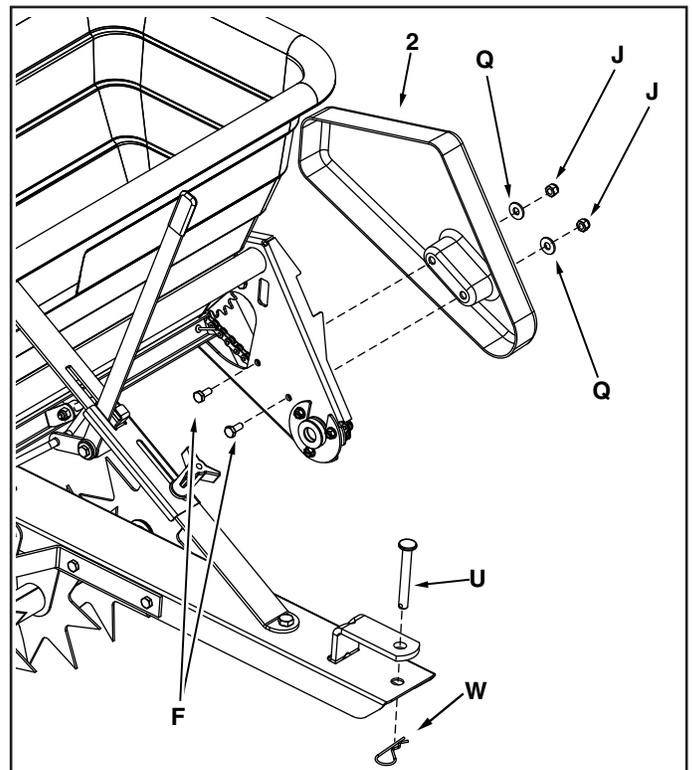

FIGURE 28
45. Assemble the chain cover (2) to the frame assembly using two 1/4" x 5/8" hex bolts (F), 1/4" flat washers (Q) and 1/4" nylock nuts (J) as shown figure 28. Please note that some parts are not shown for clarity.
46. Install the hitch pin (U) and the 1/8" hair cotter pin (W) in the spreader hitch bracket and tongue. See figure 28.